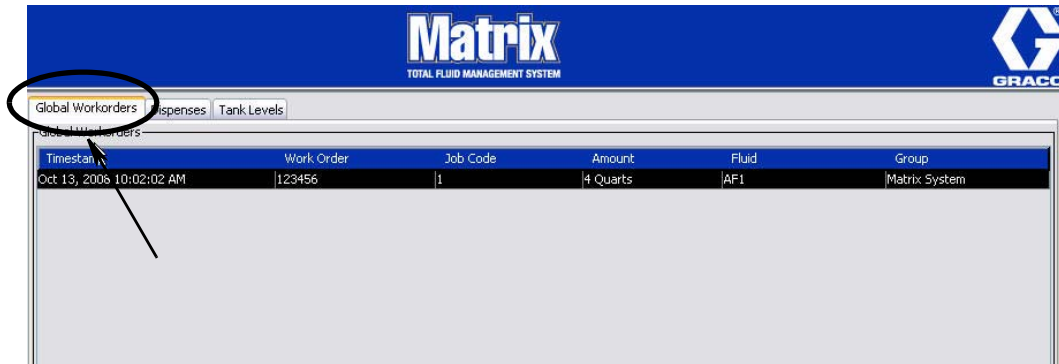

FIG. 197
1. Select the Global Work Orders tab (FIG. 197).